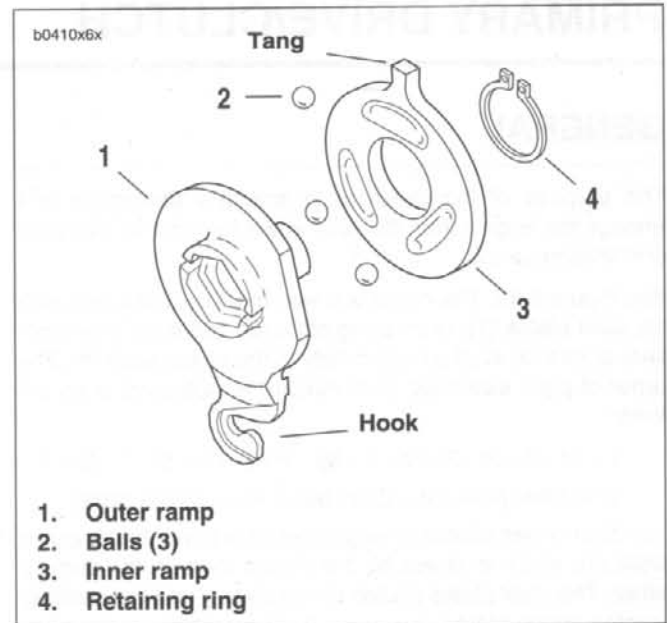
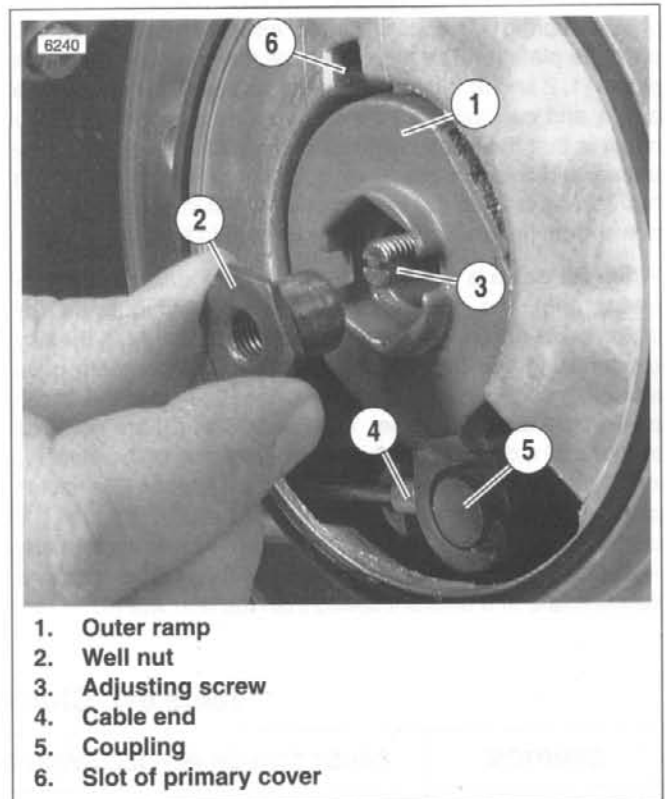

Figure 6-11. Inner and Outer Ramp
Figure 6-12. Nut and Outer Ramp
1. See Figure 6-11. Assemble inner and outer ramp.
- a. Apply multi-purpose grease to balls (2) and ramps (1, 3).
- b. Insert balls in sockets of outer ramp (1).
- c. Install inner ramp (3) on hub of outer ramp (1) with tang 180° from hook of outer ramp.
- d. Install **new** retaining ring (4) in groove of outer ramp hub.
2. See Figure 6-12. Install ramp assembly.
- a. Fit coupling (5) over cable end (4) with rounded side inboard, the ramp connector button outboard.
- c. Rotate assembly counterclockwise until tang on inner ramp fits in slot of primary cover (6).
- a. Thread well nut (2) on adjusting screw (3) until slot of screw is accessible with a screwdriver.
- b. Fit nut hex into recess of outer ramp (1).